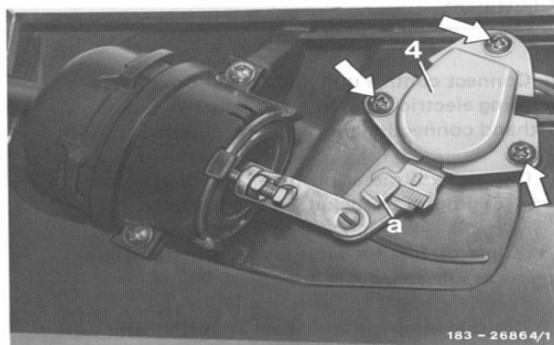

Fig. 1
- D. Set temp wheel at “MIN”, using a 5.5mm socket, and long extension and swivel adapter, turn adjustment screw until 2.5 volts is measured on the voltmeter.(see Fig. 1 )(clockwise lowers voltage, counter clockwise increases voltage)